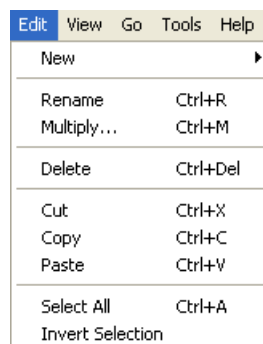

Figure 2-15 Menu bar - Edit
- **Edit:** It provides the functions needed for editing the config file created, as shown in figure 2-15.